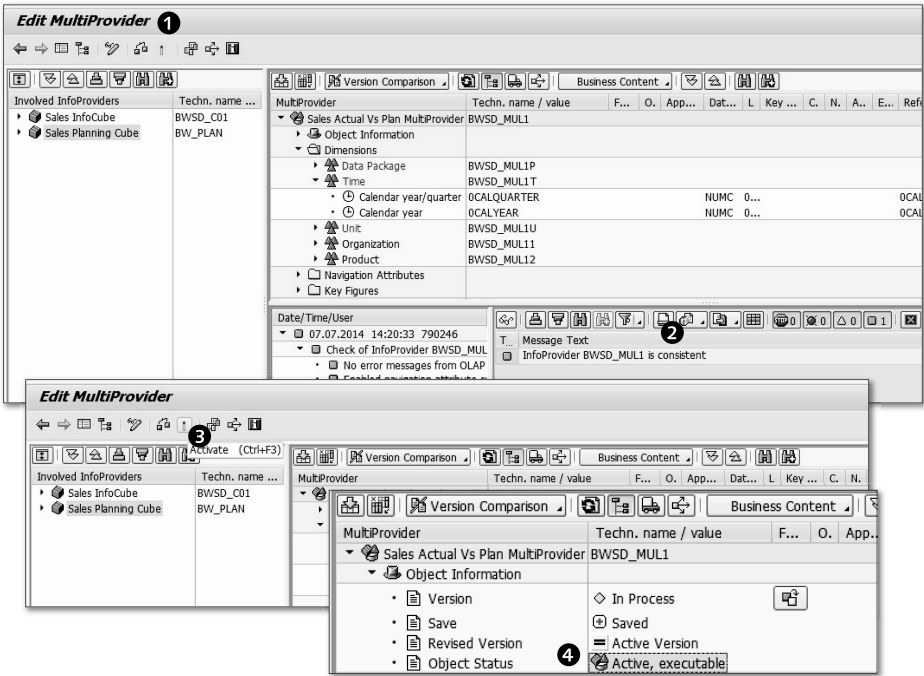

Figure 6.14 Checking and Activating the MultiProvider
Now click on the CHECK icon , as shown in ❶ of Figure 6.14, to check the definition of the MultiProvider. If everything is okay, the system reports a message ❷. At this moment, the MultiProvider is still not in ACTIVE status, so click on the ACTIVATE icon , as shown in ❸ of Figure 6.14. After it's successfully activated, the system changes the status of the MultiProvider to ACTIVE, EXECUTABLE ❹.